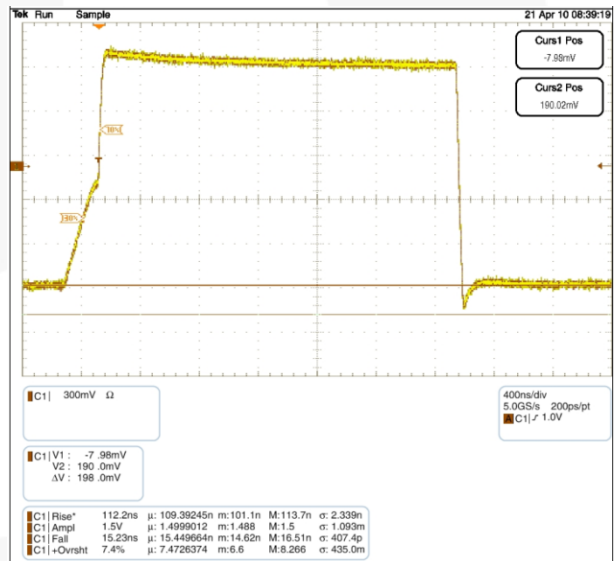

Figure 4. Waveform C: 600pF, Total R_{PU}: 2.2KΩ
$C =$ the bus capacitance. If the FXMAR2104 is attached to the master [on the A port] and there is a slave on the B port, the Npassgates act as a low resistive short between the ports until either of the port's $V_{CC}/2$ thresholds are reached. After the RC time constant has reached the $V_{CC}/2$ threshold of either port, the port's edge detector triggers both dynamic drivers to drive their respective ports in the LOW-to-HIGH (LH) direction, accelerating the rising edge. The resulting rise time resembles the scope shot in Figure 4. Effectively, two distinct slew rates appear in rise time. The first slew rate (slower) is the RC time constant of the bus. The second slew rate (much faster) is the dynamic driver accelerating the edge.